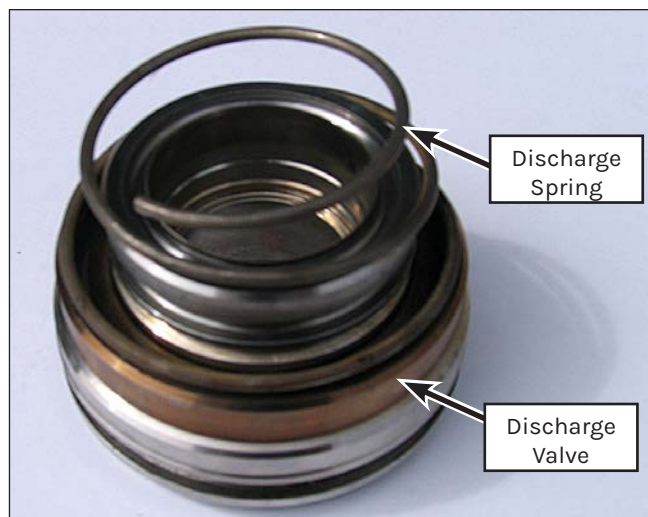

Figure 115: Discharge Installation.
1. Install the discharge valve onto the valve body. The shiny mating surface faces the holes on the valve body. Place the discharge spring into position on the valve (Figure 115).